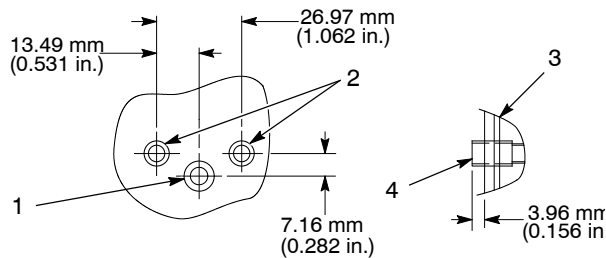

Figure 4 Mounting Dimensions for Manifold Mount Dispensing Valve
Figure 4 shows the mounting plate preparation specifications for mounting the dispensing valve on a manifold. In addition to drilling the mounting holes (2), drill a hole for the material inlet (1).